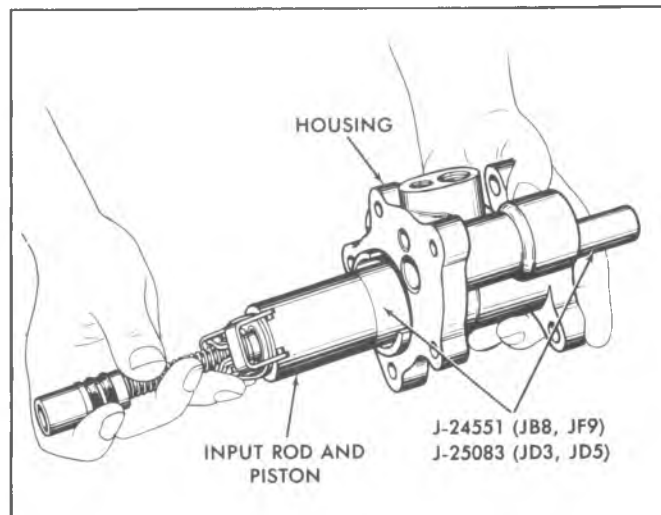

Fig. 5-13E—Installing Input Rod and Piston Assembly into Booster (Typical)
8. Lubricate the piston and Piston Installing Tool with clean power steering fluid. Hold the large end of the tool against the piston (fig. 5-13E), and slide the tool and piston into the piston bore and through the piston seal. Remove piston installing tool.